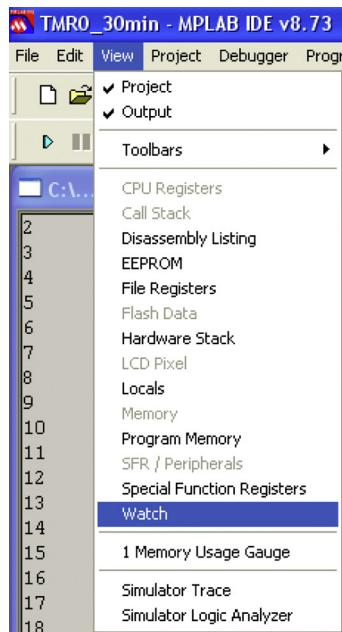

FIGURE 11.7 Opening the Watch window.
- Open the Watch window using View as shown in Figure 11.7. The window is shown in Figure 11.8.